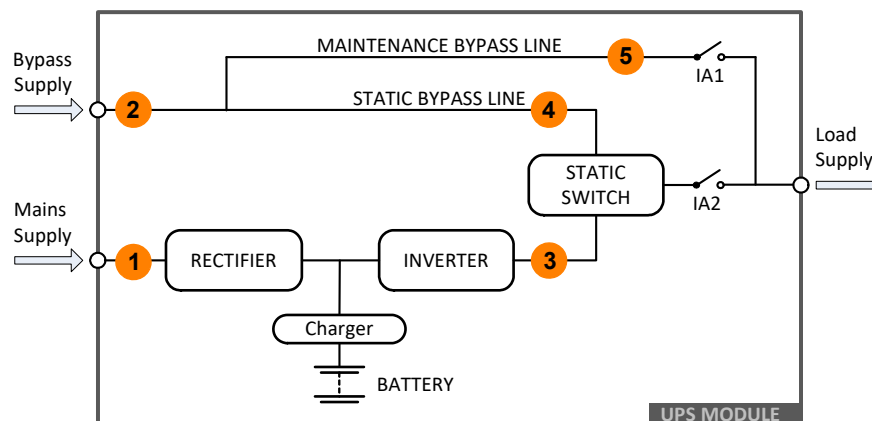

Figure 2.1 PowerWAVE 6000 UPS module block diagram
Figure 2.1 shows the power blocks contained within the PowerWAVE 6000 UPS module.
The mains supply (1) is a three phase supply which is connected to the UPS rectifier. During normal operation this supply is rectified to provide a DC input to the inverter and battery charger. A separate mains supply (2) is shown connected to the static bypass in Figure 2.1; however in a standard UPS module the bypass supply terminals (2) are usually linked to the mains supply terminals (1) so the UPS effectively requires only one mains supply connection – see paragraph 3.6.2 for details concerning ‘single feed’ & ‘dual feed’ input configurations. The bypass supply is also connected to the static switch (4) and the maintenance bypass line (5).
Figure 2.1 shows that the UPS output (load supply) can be provided through one of three power paths from within the UPS, depending on the UPS operating mode: